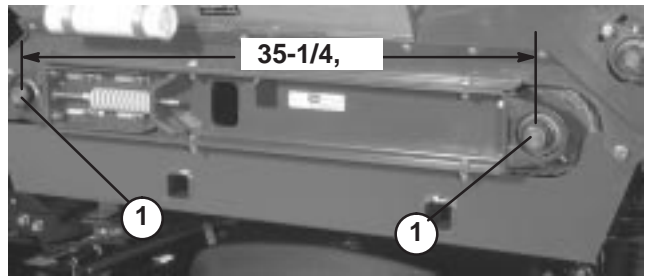

Figure 22
3. Check to insure that the center distance between conveyor belt roller shafts (Fig. 22), on each side of machine, are equal distance (approximately  $35\text{-}1/4''$ ).